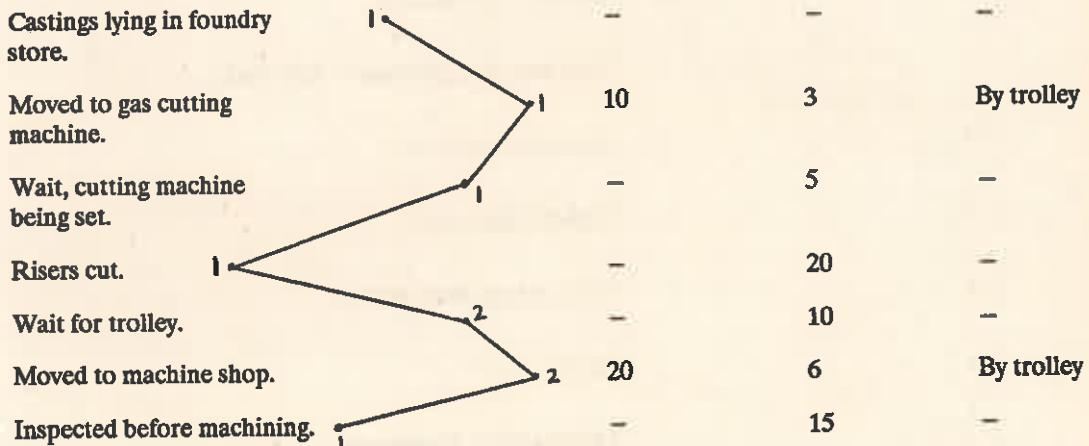

Fig. 9.2. A portion of the flow process chart (Material type) showing flow of product.
- (c) Flow process chart (Material) (Fig. 9.2).
Figure 9.2 shows a portion of the material type flow process chart.